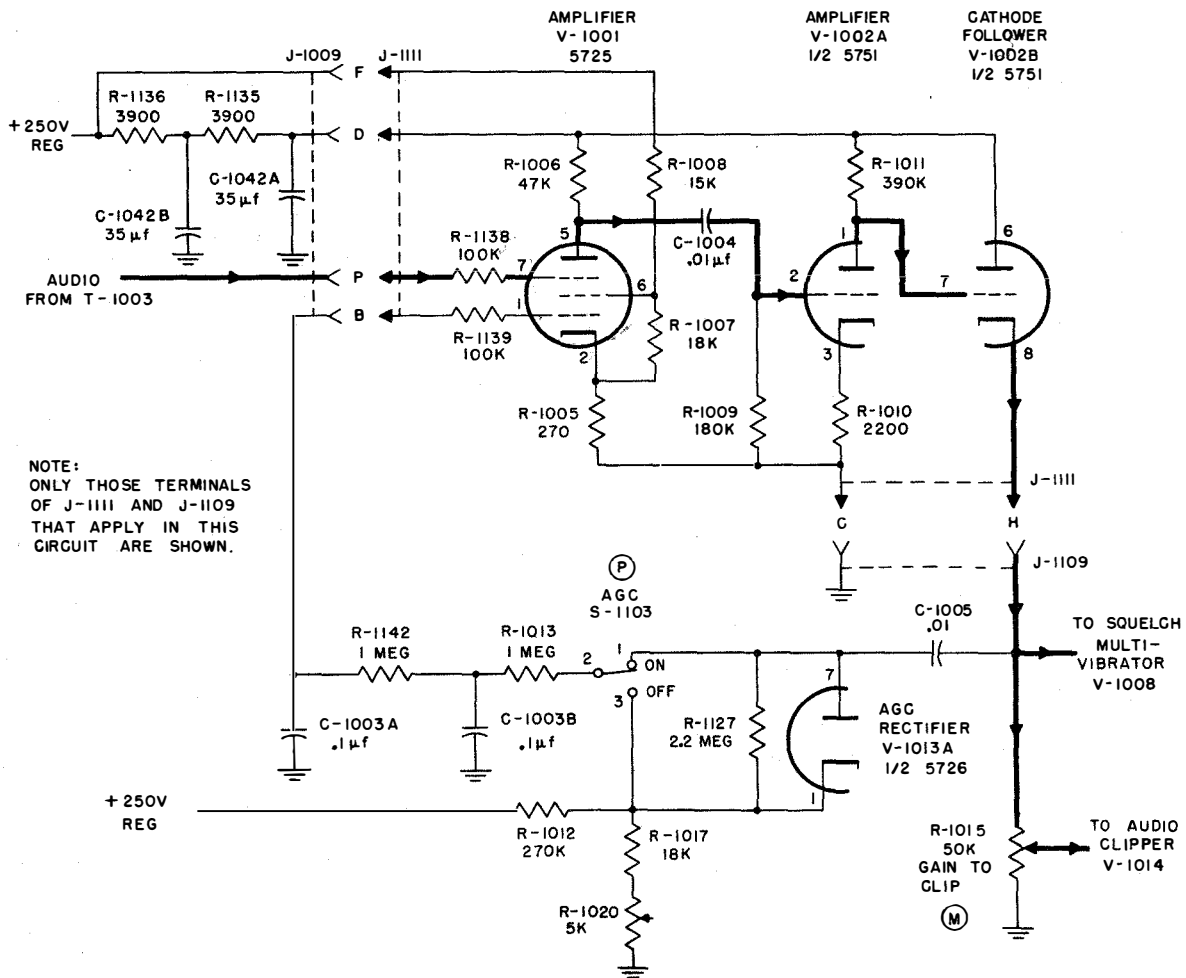

Figure 2-70. Audio Amplifiers V-1001 and V-1002A, Cathode Follower V-1002B and AGC Rectifier V-1013A, Simplified Schematic
(2) AUDIO AMPLIFIERS V-1001 AND V-1002A, CATHODE FOLLOWER V-1002B AND AGC RECTIFIER V-1013A.—The output from T-1003 is fed to a two-stage audio preamplifier consisting of V-1001 and V-1002A (figure 2-70). The preamplifier feeds a cathode follower V-1002B, whose function is to match the high-impedance output of the preamplifier to the